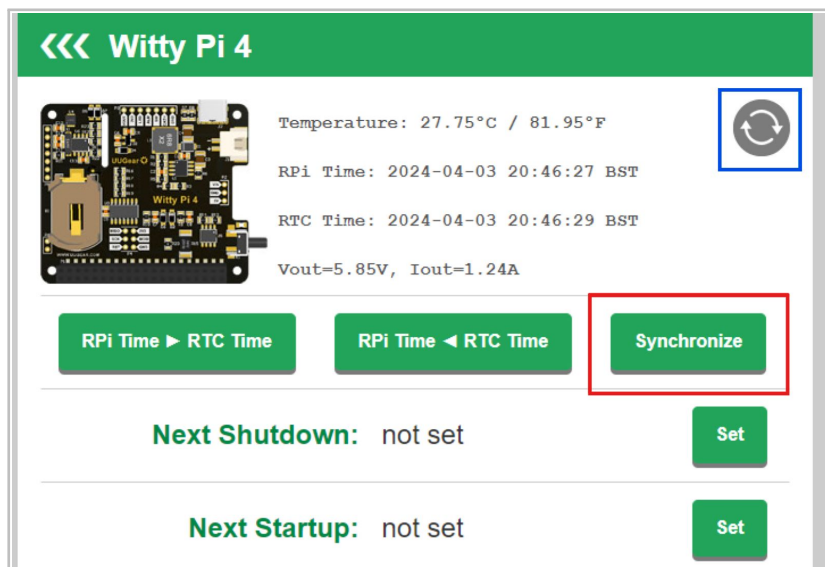

Fig. 10. RTC Board Interface
- **RTC Board Clock Synchronization:** The RTC board's clock has a slight amount of drift, and has a maximum variance of approximately 1 minute per year. To keep the time on the Sonde-Pi as accurate as possible, it is recommended to synchronize the RTC clock with internet time once a year. To perform this, ensure that the Sonde-Pi is plugged into an active internet connection via ethernet and connect a computer or cell phone to the Sonde Pi's Wi-Fi. Next, click the *RTC Manager* link at the top of the web interface and the window seen in Figure 10 will appear. It is recommended to click or tap on the update button in the blue box first. After that, the synchronize button in the red box should be pressed, which will synchronize the RTC board's clock with internet time. Once that is complete, the user can resume using the Sonde-Pi as usual.